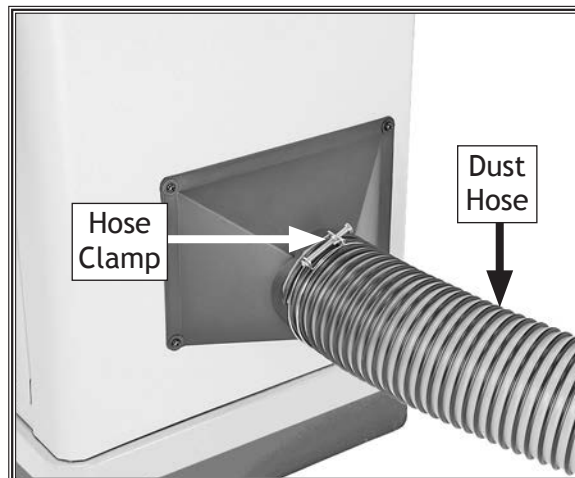

Figure 23. Example of dust hose connected to dust port.
1. Fit a 4" dust hose over the dust port, as shown in **Figure 23**, and secure it in place with a hose clamp.